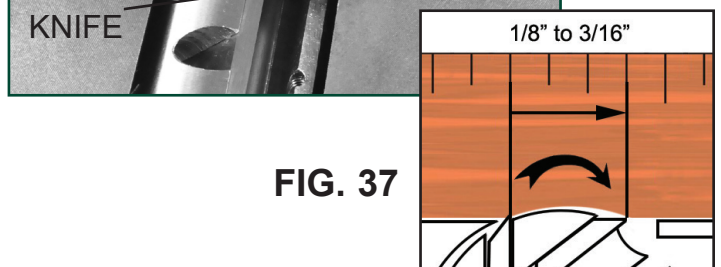

FIG. 37
2. Slowly turn the cutterhead by hand, in the direction of the cutting knives. If the planer knives are set correctly, the end of the straight edge is moved forward $1/8"$ to $3/16"$. FIG. 37. If the straight edge moves less than $1/8"$, the knives are set too low. If it moves further than $3/16"$, they are set too high.